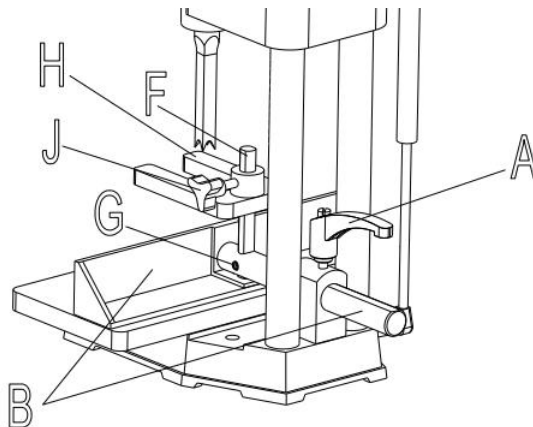

Fig.7
- 1.Locate handle assembly and remove screw (A) Fig.7, and spring (B) from handle (C). Sperate handle (C) from stud (D).
2. Insert bar of fence assembly (E) Fig. 7, through hole in column as shown. Tighten handle (C) against flat on fence bar to hold fence in position.
3. Insert bar (F) Fig. 7, into hole on top of fence as shown, and tighten set screw (G) against flat on bar (F).
4. Assemble the hold down (H) Fig. 7, onto bar (F) as shown, and tighten set screw (J) against flat on bar.